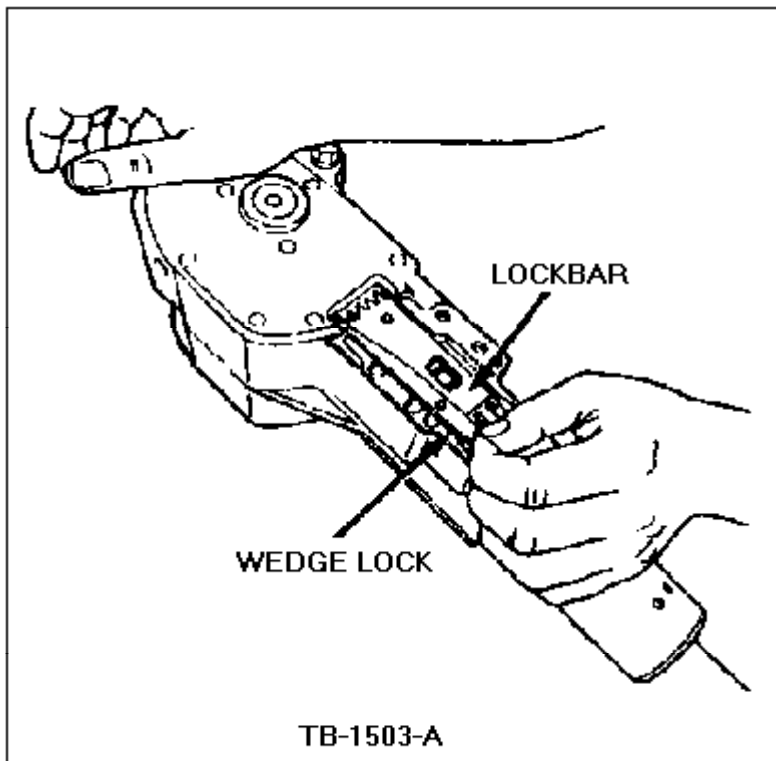

Figure 36 - Article 90-5-10
34. Lightly grease and assemble the wedge lock next to the lock bar with the tapered end toward the support bracket teeth and locating pin up, Figure 36.